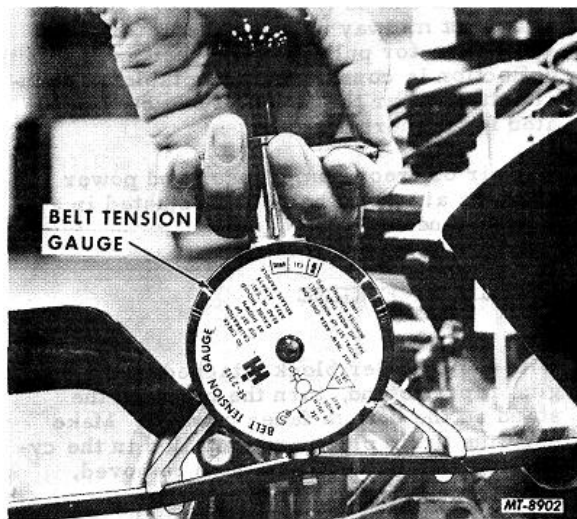

Fig. 140 Adjusting Alternator Belts Using SE-2312 Gauge
Alternator belt tension can be accomplished with the use of SE-2312 gauge, Fig. 140. Check tension at midpoint between the pulleys. Apply gauge to the longest belt span. Instructions for checking are as follows:
2. Apply gauge to belt, Fig. 140. Be sure belt is positioned between nose piece and hook and that the nose piece is centered on the belt.